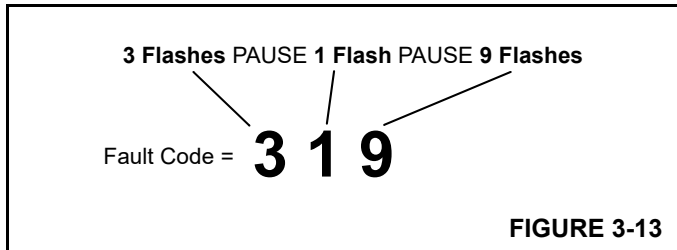

FIGURE 3-13
- c. Red STOP light flashes a three-digit code to show which active fault has been detected (refer to Figure 3-13 for example). There is a 1 to 2-second pause between each number.